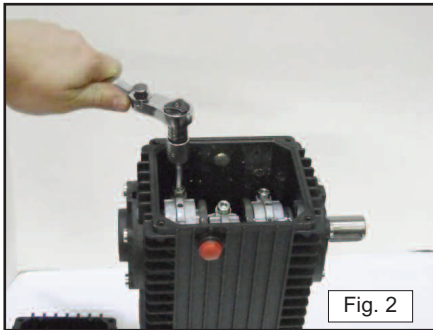

Fig. 2
3) Remove connecting rod cap bolts with 6 mm hex wrench, respecting position and orientation of each cap. Position connecting rod/plunger guides fully into crankcase to allow clearance of crankshaft removal. Fig. 2 and 3.